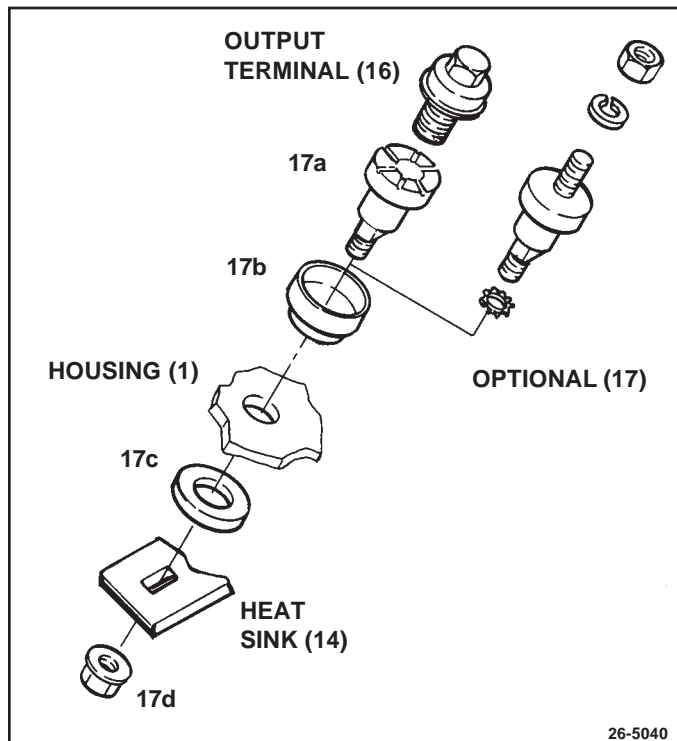

Figure 36. Installing Output Terminal
11. Place insulator (17b) on output terminal (17a) and install through hole in housing (1). (See Fig. 36) Install flat insulator washer (17c), aligning flat shoulders on terminal with slot in heat sink to fully seat terminal. Install nut/washer assembly (17d) onto threaded portion of terminal inside housing. Tighten nut to 5 N.m (45 lb. in.).